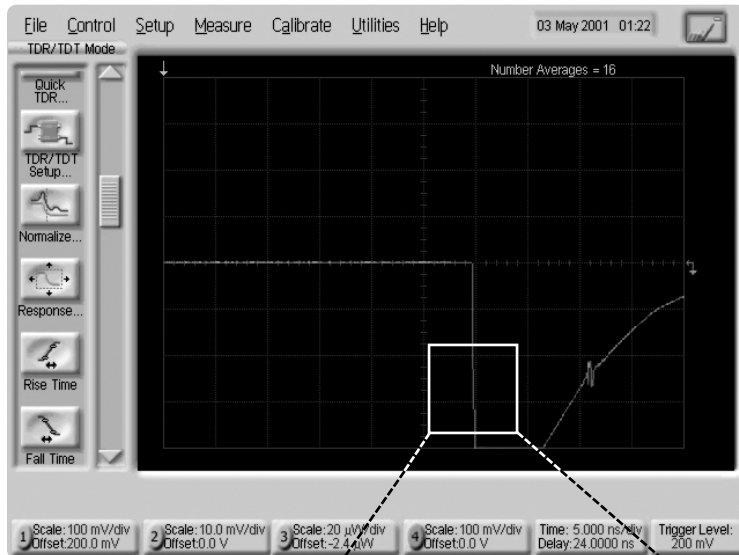

Figure 6. Screen shot after selecting external stimulus.
5. With an open circuit termination, you will see a sharp descending pulse edge followed by an exponential rising edge. Your screen should look similar to Figure 6. All of these changes occur in time at the TDR port reference plane.